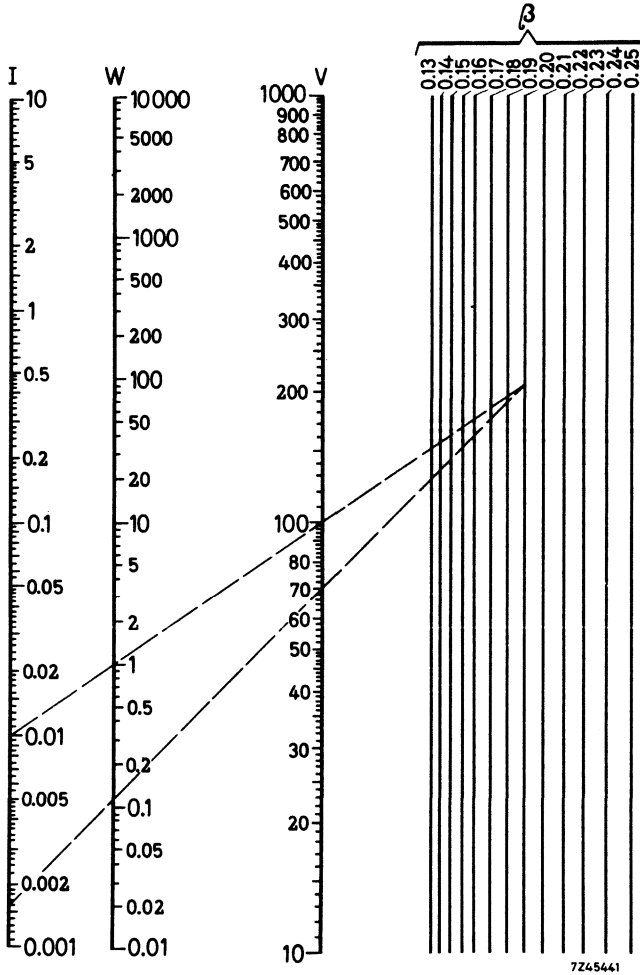

Fig.3.
To avoid cumbersome calculations with broken exponents eq. (1) is elaborated into a nomogram, Fig.3, which gives by a simple construction the corresponding values of voltage and current for any given VDR.
According to formula (1) it is possible to specify the electrical characteristics of a VDR resistor by giving its C- and β -values. The advantage of this specification is that only two parameters are used. The disadvantage is, however, that due to the inevitable tolerances on the β -values, the spread in voltages at low currents (in the working area) becomes very large. It is for this reason that the method of specifying by the C-value defined at 1 A is abandoned and we now specify the voltage across the VDR at currents which lie in the working area (1, 10 or 100 mA instead of 1 A). In this way it is possible to supply VDR's which have much closer tolerances in the area where they are used, see Fig.14. In theoretical calculations it is much easier, however to use the C-value. Therefore the formula $V = CI^\beta$ is used. When a calculation leads to a certain C-value, the voltage at currents of 1, 10 or 100 mA can be found with the aid of the nomogram (Fig.3).